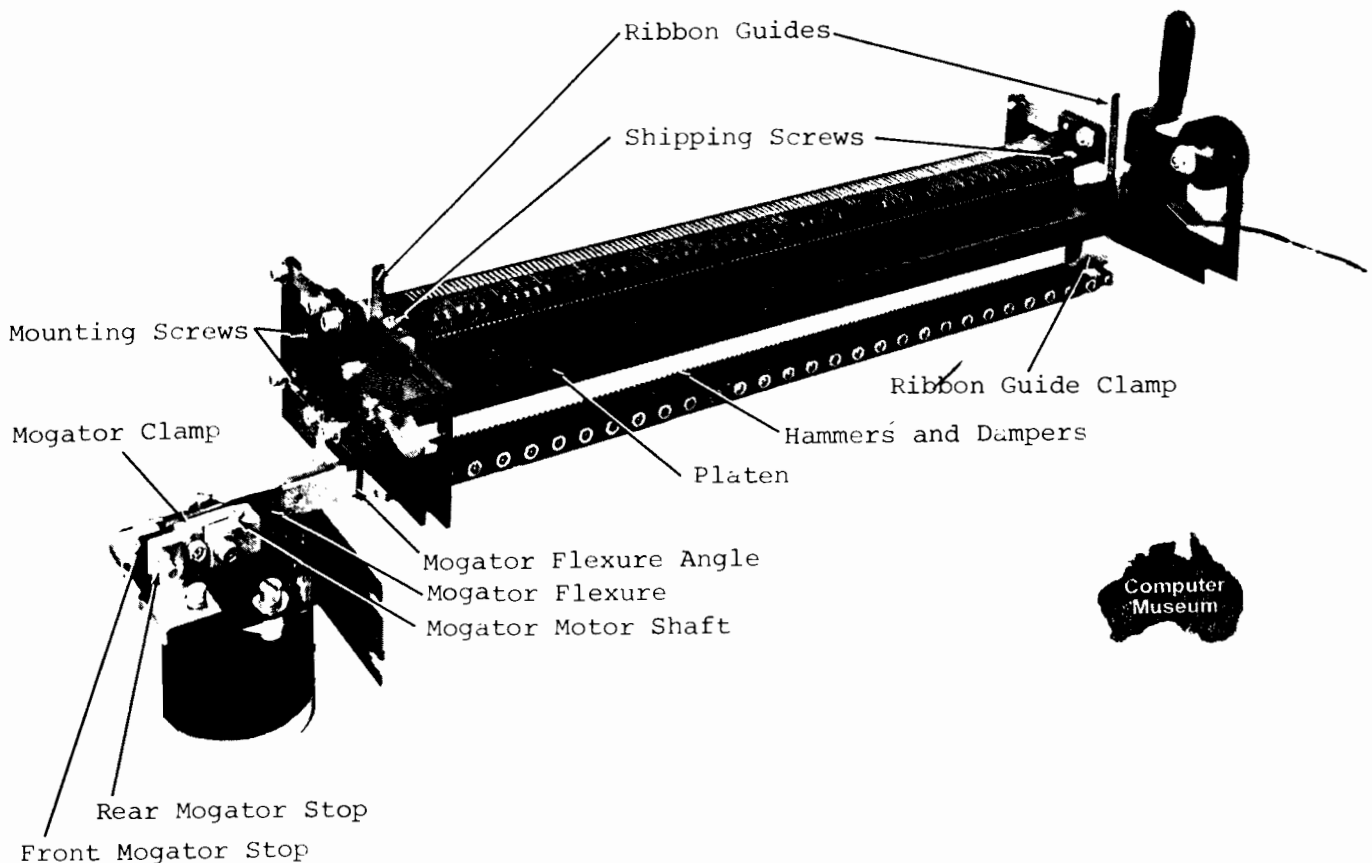
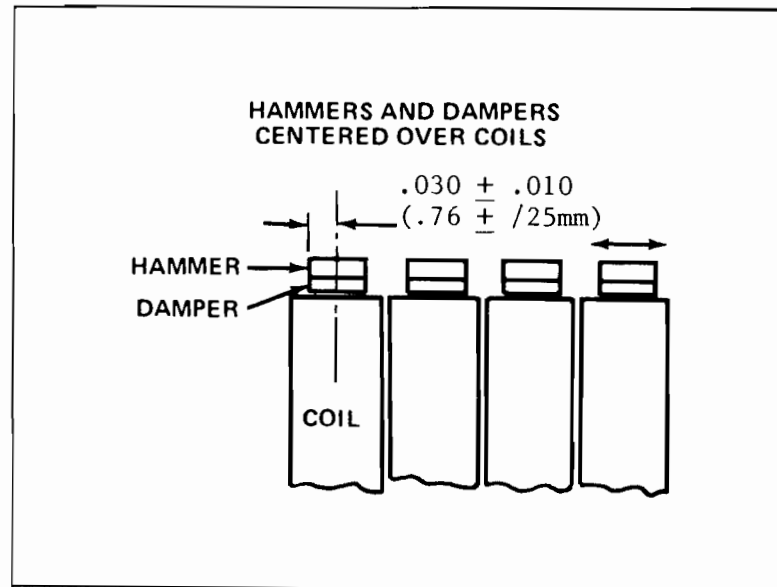

Figure 5-6. Print Mechanism and Mogator Assembly
Figure 5-7. Hammer and Damper Centering.
- 5-19. Print Mechanism (figure 5-6). Remove the print mechanism as follows:
- h. Hold the print mechanism such that the hammer centers and coil centers coincide (figure 5-7) and position the mogator clamp (figure 5-6) on the mogator motor shaft such that the flexure is flat. Tighten the outboard screw only on the mogator to motor clamp while making sure the hammers and coils still coincide and the flexure is flat. If the flexure has any twist to it with the hammers centered over their corresponding coils, adjust the entire mogator motor assembly to eliminate it. If the flexure has a permanent bend or crease replace it.
5-20. Hammer and Damper Assembly (figure 5-6). Remove the hammer and damper assembly as follows:
- d. Loosen both shipping screws (remove the shipping blocks). Hold the carriage and move the core bar to its left or right limit and release it. It should oscillate freely. After the core bar comes to rest, center the hammers and dampers over their corresponding coils as shown in figure 5-7.
5-21. Platen (figure 5-6). Remove the platen as follows:
- d. Loosen the two screws which secure the mogator clamp (figure 5-6) to the mogator motor shaft, the two screws which secure the mogator angle to the print mechanism carriage, and the two screws securing the mogator flexure to the mogator angle.